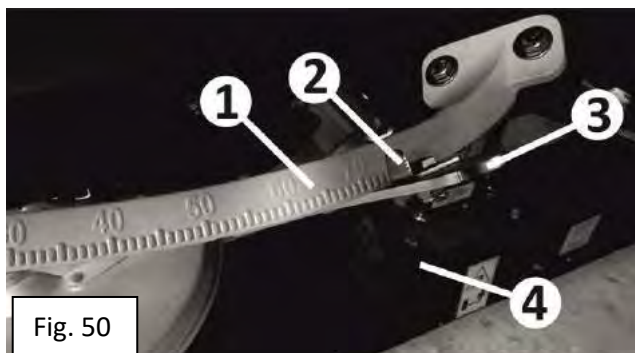

Fig. 50
2. Open the amount adjustment lever (Fig.50/3) and amount adjustment cover.
4. Set the adjustment lever (Fig.50/3) through 0 grade on the scale till $\varnothing 12$ mm gib.
5. Fix the adjustment lever with handle (Fig.50/4).
6. Loose the indicator screw and set the indicator (Fig.50/2) to 8 in the scale and tighten the nut.